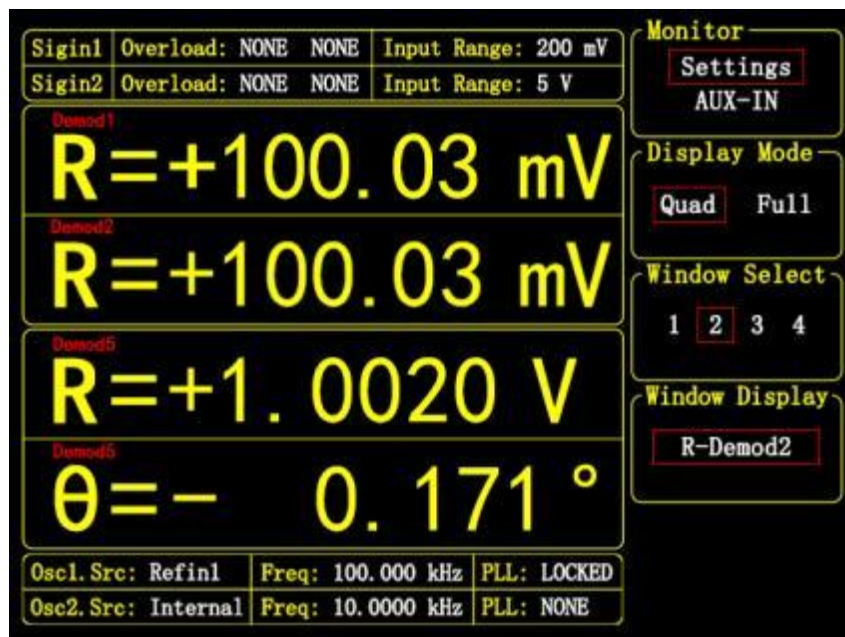

Figure 99. Modify Column Display Results
In the system's default settings, the data bar displays four columns showing the  $\langle R \rangle$  and  $\langle \theta \rangle$  values of Demod1 and Demod5 respectively. The displayed values can be modified using the following method: Press the "soft key 3" in the [Display] submenu to switch between  $\langle$ Window Select $\rangle$  menu items  $\langle 1 \rangle$ ,  $\langle 2 \rangle$ ,  $\langle 3 \rangle$ , and  $\langle 4 \rangle$ . For example, selecting  $\langle 2 \rangle$  indicates the second sub-column is selected. Then press "soft key 4" to access the  $\langle$ Window Display $\rangle$  menu, where you can adjust the display to show the "R\_Demod2" value via the knob. After modification, as shown in Figure 99, this method allows you to view the desired measurement results.